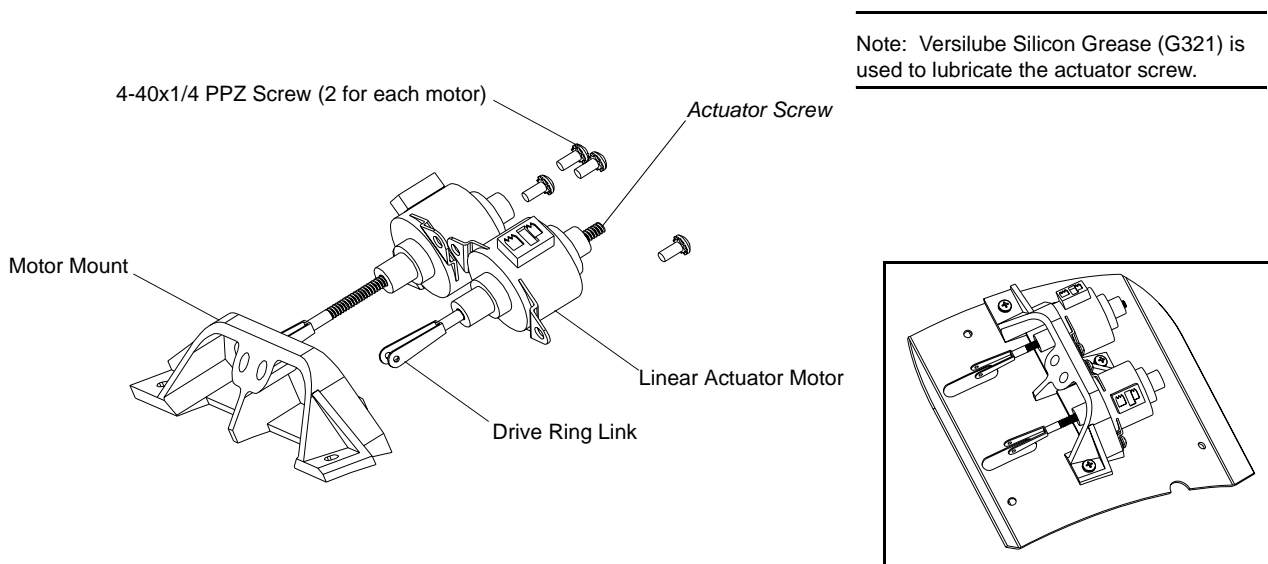

Figure 12: Amber/Diffuser Linear Actuator Motor Replacement
- Step 7. At linear actuator motor, using #1 Phillips screwdriver, remove two 4-40x1/4" PPZ screws securing linear actuator motor to actuator mount, and remove motor. See **Figure 12**.